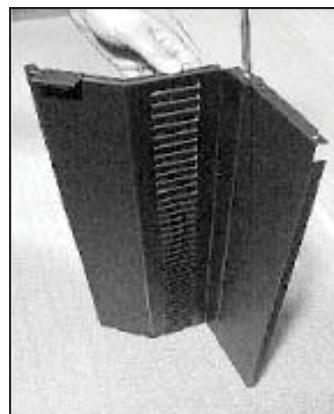

Figure 22.4
3. Stand assembly on end and attach and install (1) 8-32 x 3/8 inch screw through tab in side panel and curtain. **Figure 22.4**. Lay face down as shown in **Figure 22.5**.